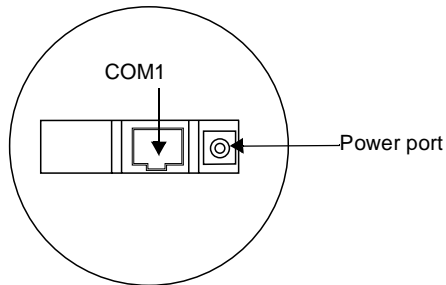

Figure 2-1. Ports on the Cradle
2. Connect the Synapse cable to the cradle (see Figure 2-1 on page 2-2).